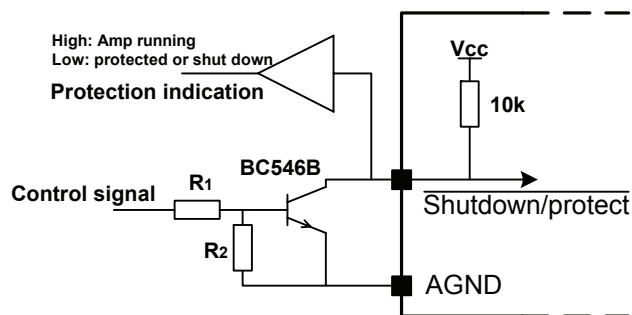

Figure 15: Interface and simplified internal circuit for Shutdown/protect pin.
9) Only valid with the circuit shown in Figure 15.
The recommended external circuit for shutdown is shown in Figure 15. The timing specifications are only valid with the interface circuit shown in Figure 15.